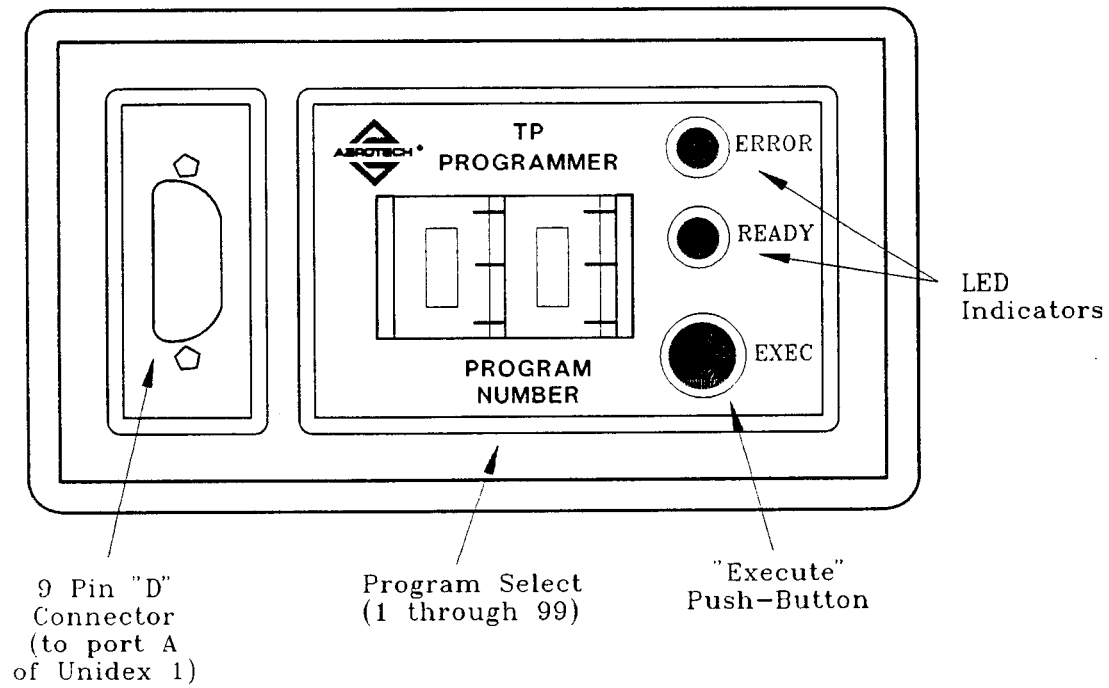

Figure 6-3: Thumbwheel Programmer (TP) Option
The Thumbwheel Programmer (TP) (Figure 6-3) is supplied with a molded interconnect cable designed to plug directly into the Communications Interface Connector, Port A of the Unidex 1 (see Section 2-7). No additional interconnect wiring is required by the User. The TP derives its power directly from the Unidex 1.